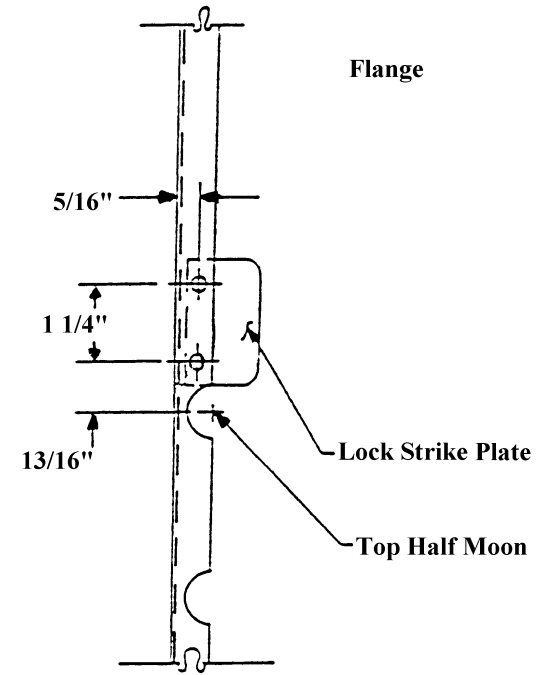

Figure 6
13. Locate the top, half moon cut out in the flange of the main door, near the "T" handle stud area. (See figure 6 on page 4.)
14. Use the dimensions on figure 6 diagram to mark and drill two 7/32" diameter holes.